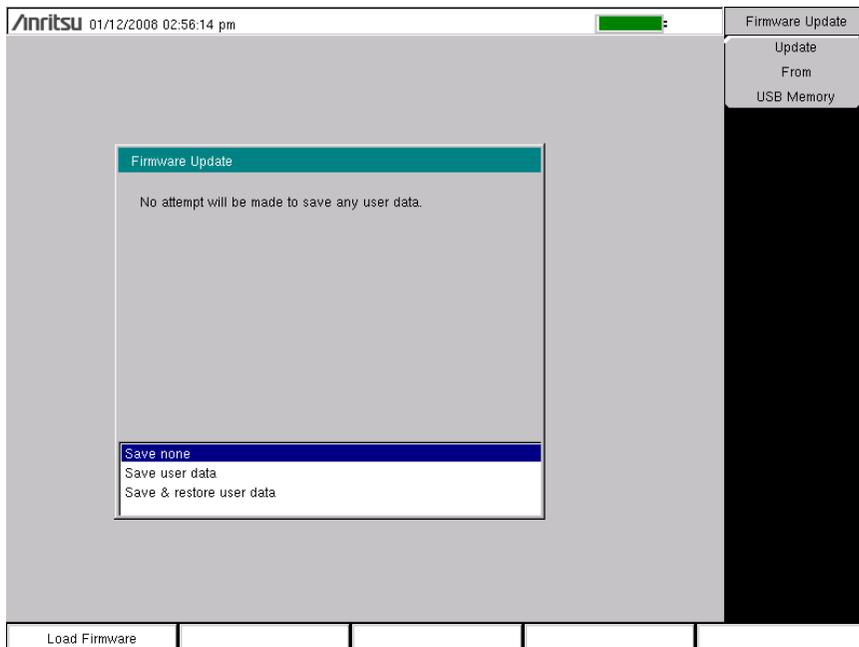

Figure 6-10. Firmware Update Menu
4. Press the Update Application Firmware submenu key, and the Firmware Update dialog opens (Figure 6-10).